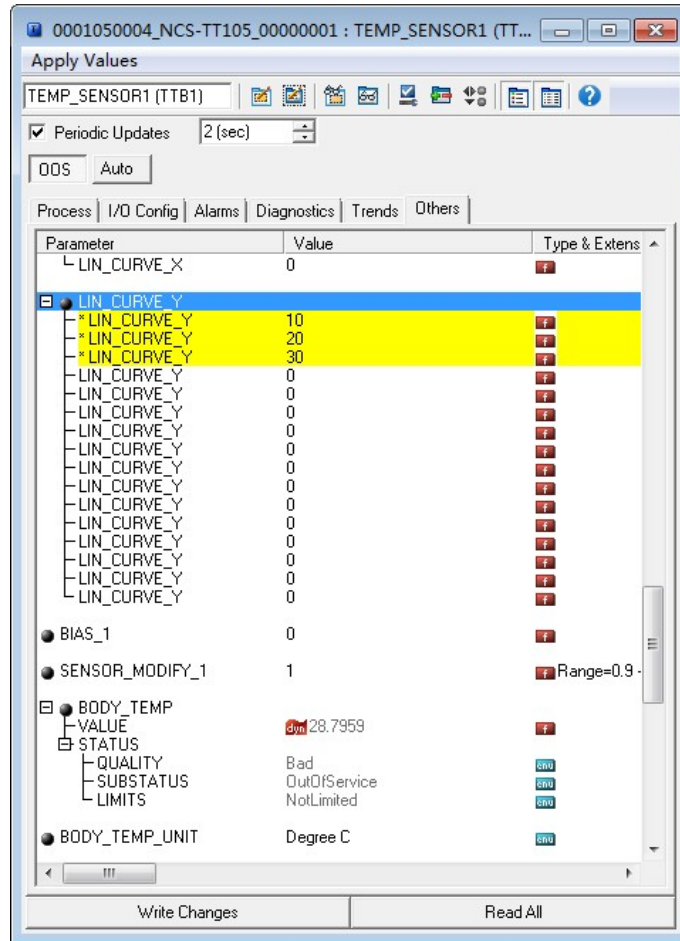

Figure 3.4 CAL\_POINT\_Y configuration
- 1) The smart temperature transmitter provides 16 calibration point inputs, that is, the parameter CAL\_POINT\_Y array of the transformation block. The user can sequentially write the output values to be calibrated into the array and select a good unit. For example, when performing three-point interpolation calibration, the user can select 10, 20, and 30 as the calibration points, and write these three values in the CAL\_POINT\_Y array in turn, as shown in Figure 3.4.